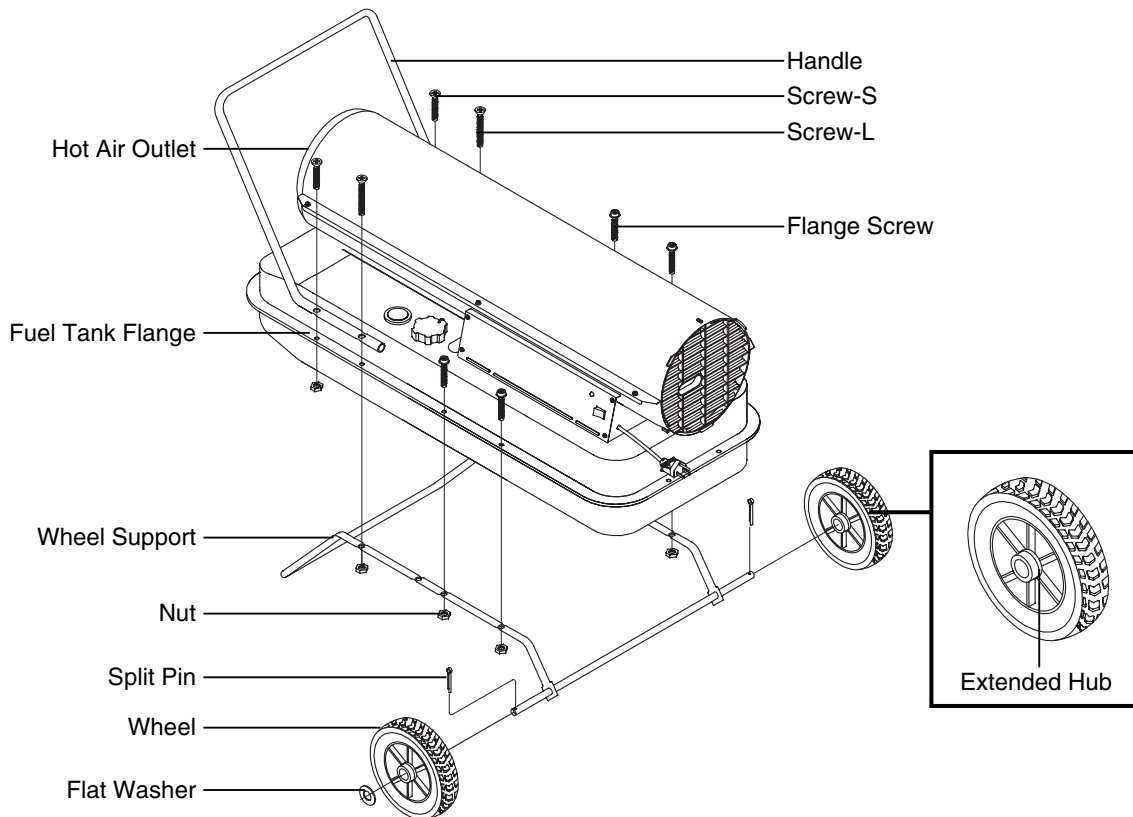

Figure 6. Wheel and Handle Assembly, DFA-125 MODEL
B. For DFA-125 model only (Figure 6)
NOTE: When installing wheels, point extended hub of wheels toward wheel support frame (see Figure 6)
4. Position the handle on top of fuel tank flange. Insert screws through handles, fuel tank flange, and wheel support frames as shown in Figure 6 and attach nut finger tight after each screw is inserted.